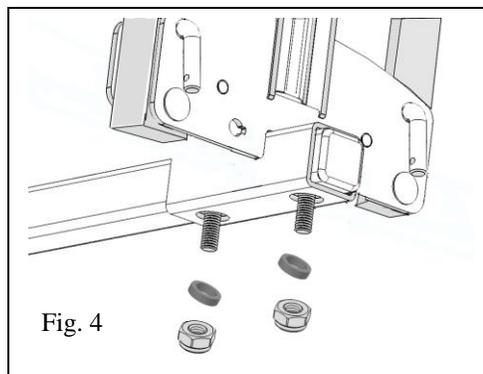

Fig. 4
4. Insert the two carriage bolts through the holes, bolt head on top. Bolts should be protruding through bottom of main frame per Fig 4.